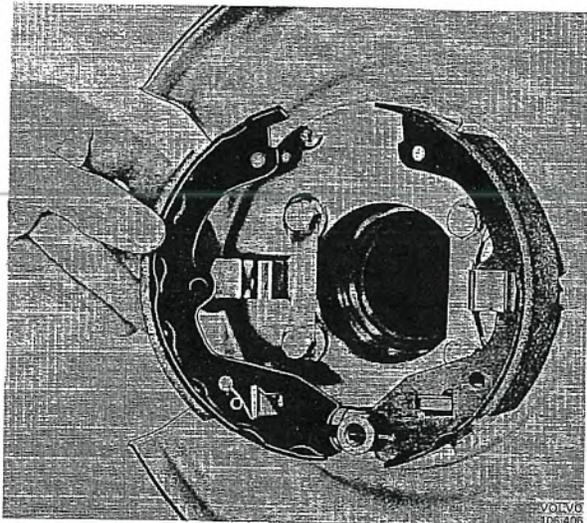
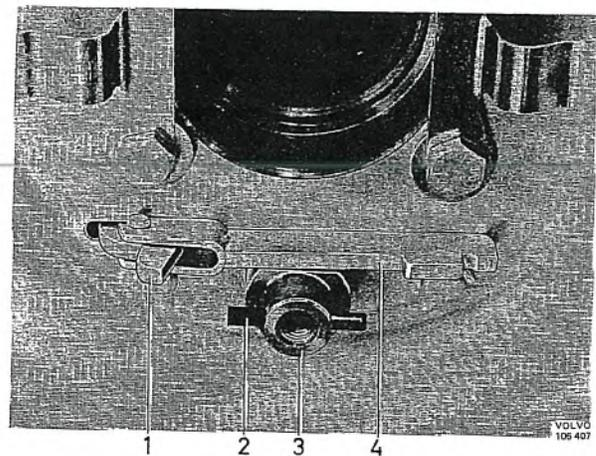
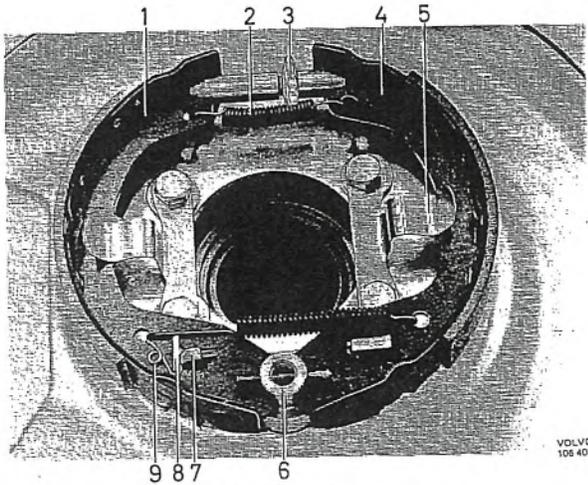

Fig. 5-85. Fitting brake shoes
Fig. 5-86. Brake parts
Fig. 5-87. Parking brake
5. Remove both the return springs and the adjusting device. Lift forward the shoes, see Fig. 5-86. Manipulating the links will facilitate removal.
2. Coat the 6 guide lips on the backing plate as well as the lever joint and adjusting screw with heat-resistant graphite grease intended for this purpose. Check that the lever and anchor bolt parts are correctly fitted, see Fig. 5-86. Check that the washer (8, Fig. 5-87) and the spring (9) are in position on the primary shoes.
3. Fit the brake shoes, see Fig. 5-85. The shorter sleeve on the adjusting device should be turned forwards on the right-hand side and backwards on the left-hand side, see Fig. 5-87.